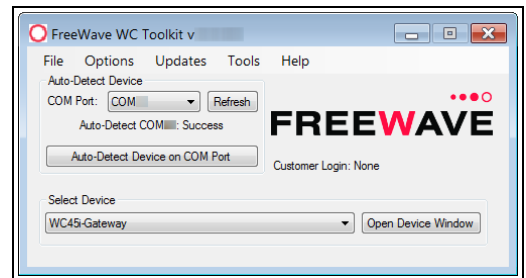

Figure 15: Select Device window
6. Open the **WC Toolkit** software. The **Select Device** window opens. (Figure 15)